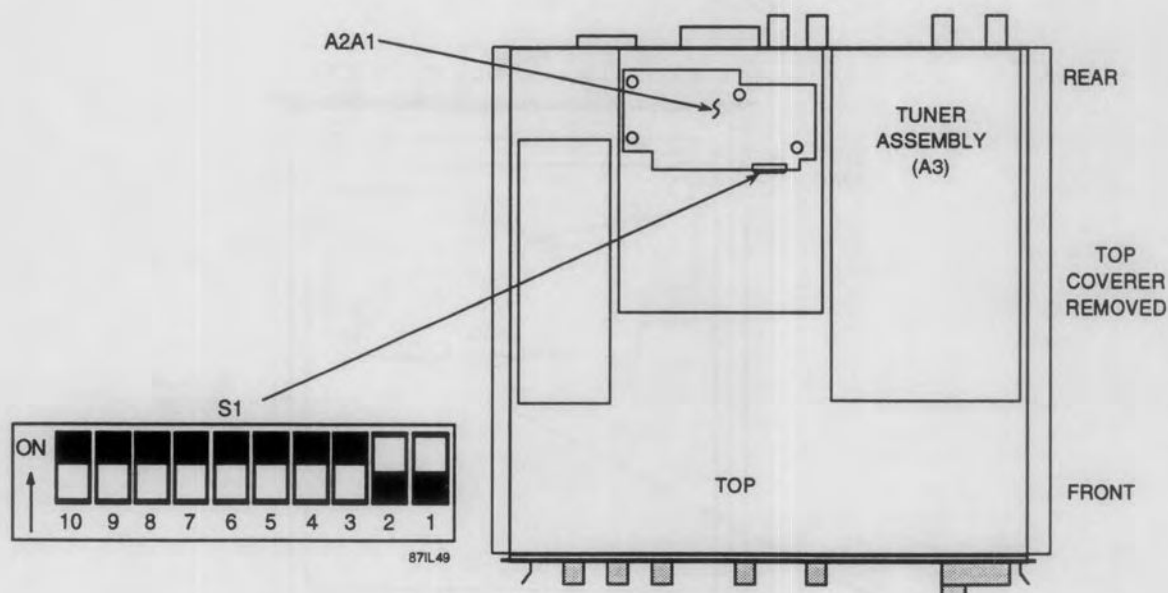

Figure D-4. Location of DSO1 DIP Switch S1 in the WJ-8711 and WJ-8711A
- d. Locate S1 on the A2A1 assembly (refer to **Figure D-4**).